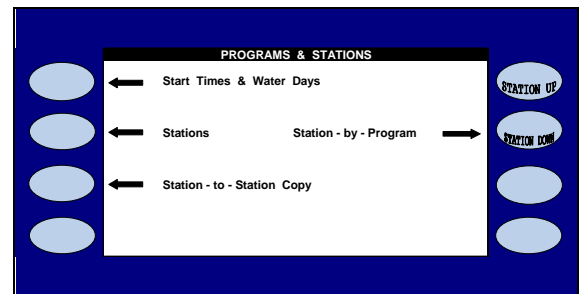

Figure 8
This will take you to the PROGRAMS & STATIONS screen. (Figure 8).
13.  Press the **STATIONS** Menu key. (Figure 8).